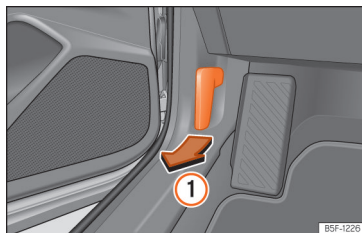

Fig. 219 Release lever in the driver's footwell area.
- Open the door and pull the lever that is underneath the instrument panel »»» Fig. 219 ①.